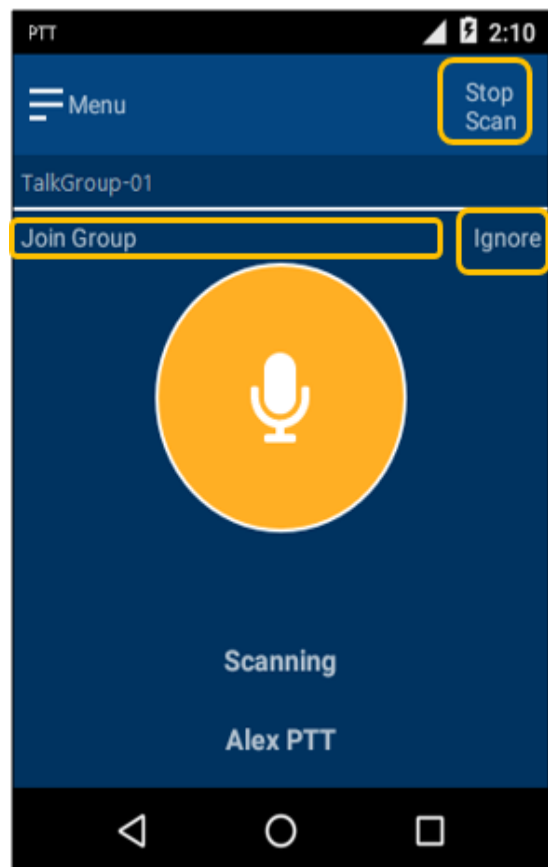

Figure 106: PTT Scanning
- Press **Join Group** to stop scanning and join the current talkgroup (see **Figure 106**).
- Press **Ignore** to ignore the current talkgroup and continue to scan the remaining talkgroups (see **Figure 106**).
- Press **Stop Scan** to stop scanning all active talkgroups (see **Figure 106**).